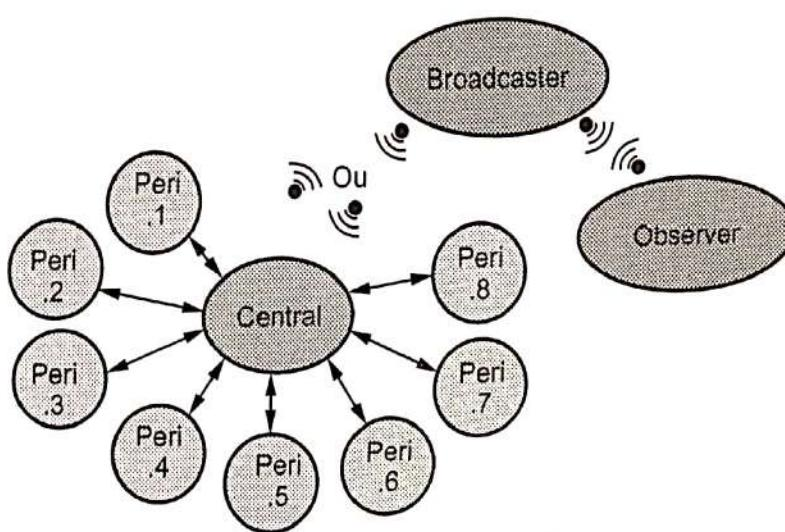

Fig. 3.2.1 : BLE connection
- Fig 3.2.1 shows BLE connection.